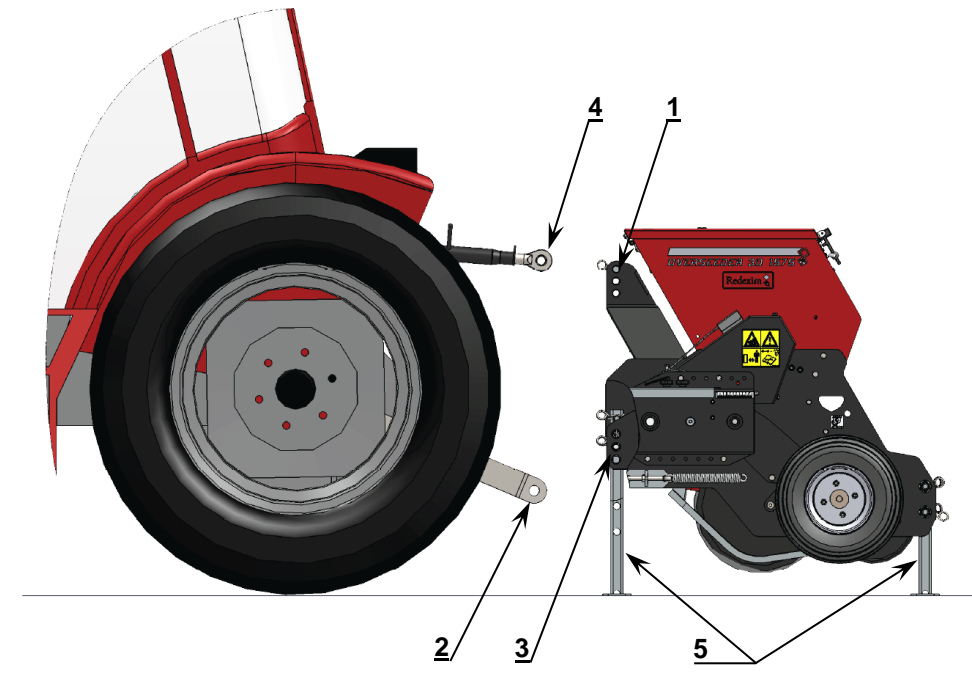

Figure 3
1. Remove the upper 3-point pins **(1)** and **(3)** from the machine **(see Figure 3)**.
The machine should be detached in the following manner (see **Figure 3**):